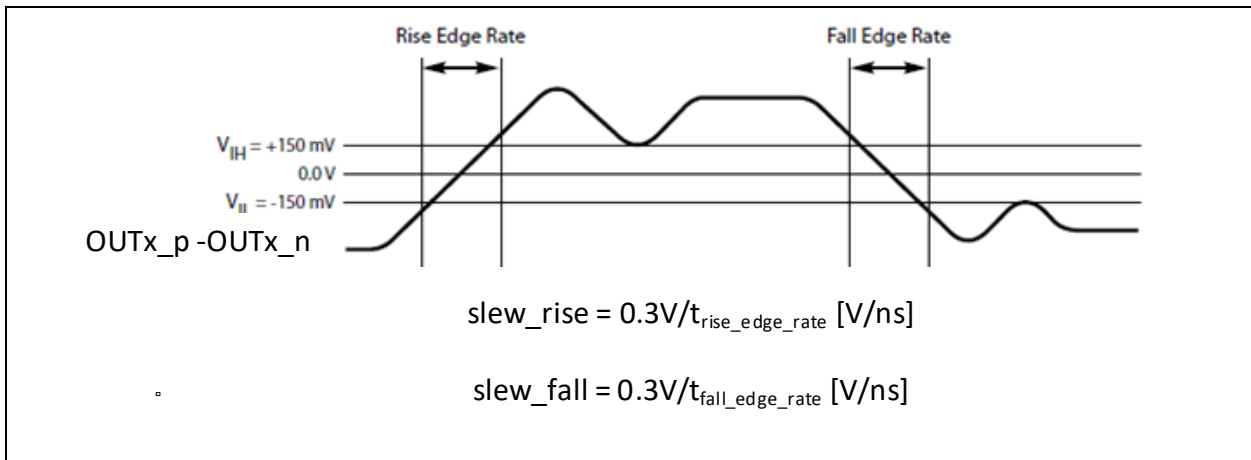

Figure 17. Differential Measurement Points for Rise and Fall Time
(1) Measurement taken from single ended waveform
(2) Measurement taken from differential waveform.
(3) Measured from -150 mV to +150 mV on the differential waveform (derived from CK minus CK#) The signal must be monotonic through the measurement region for rise and fall time. The 300 mV measurement window is centered on the differential zero crossing. See Figure 17